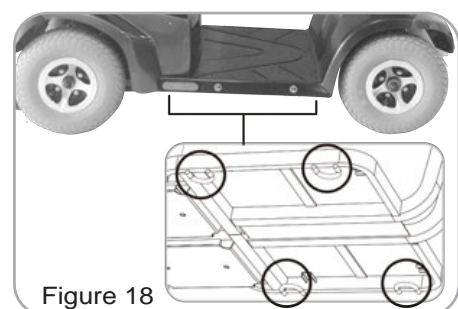

Figure 18
- Make sure the scooter is in D position when transporting. (Figure 18)